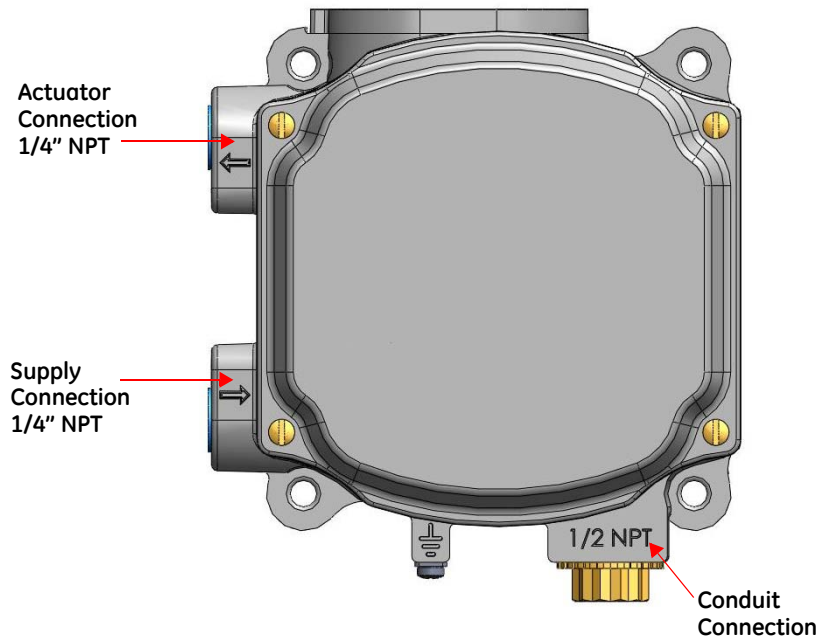

Figure 22 Air Ports
1. Install the tubing to the air supply port. Minimum tubing diameter 1/4" (Figure 22).